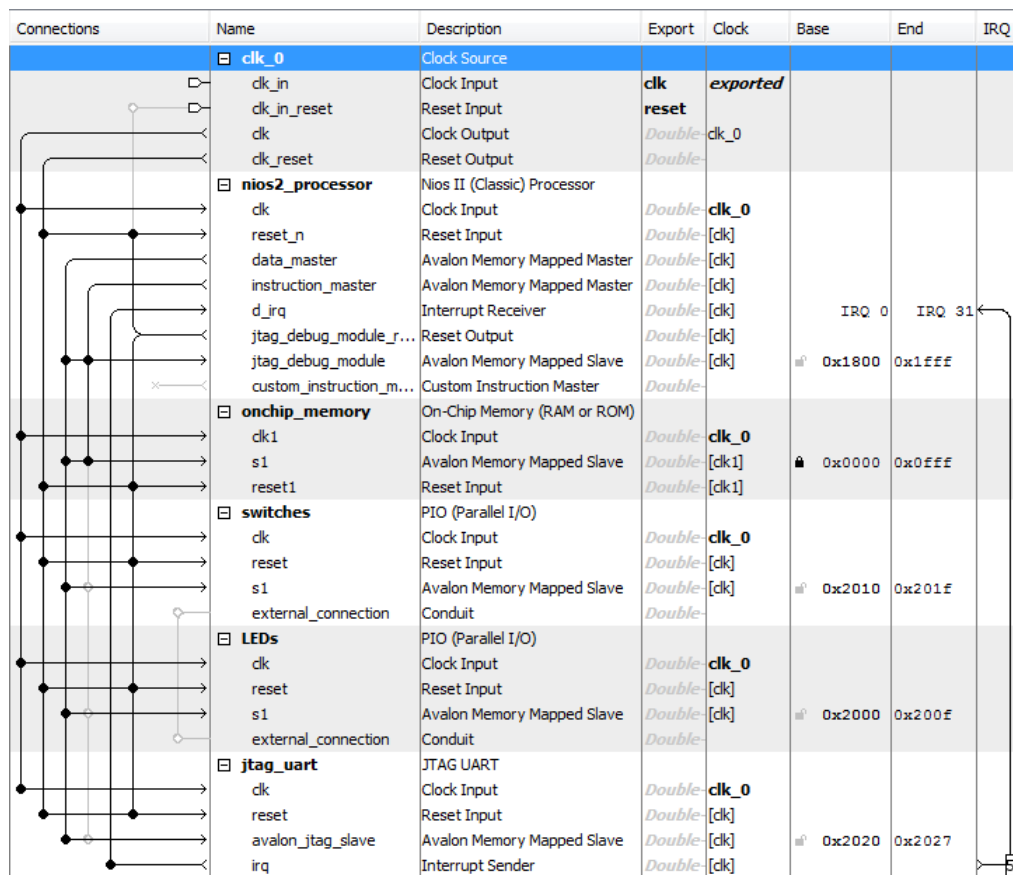
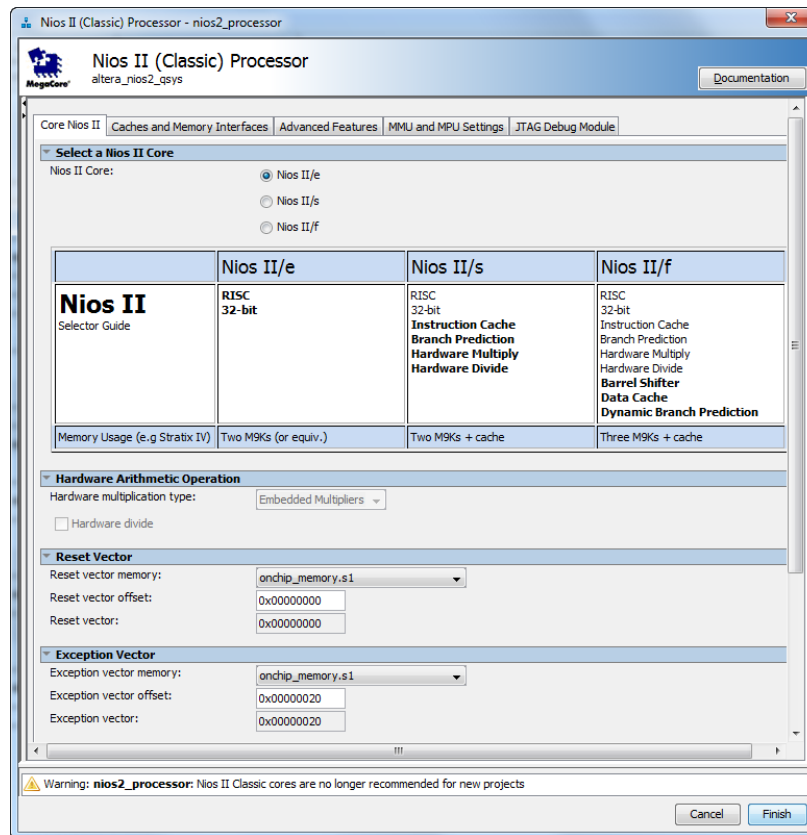

Figure 16. The system with assigned addresses.
Figure 17. Define the reset and exception vectors.
- Observe that the base and end addresses of the various components in the designed system have not been properly assigned. These addresses can be assigned by the user, but they can also be assigned automatically by the Qsys tool. We will choose the latter possibility. However, we want to make sure that the on-chip memory has the base address of zero. Double-click on the Base address for the on-chip memory in the Qsys window and enter the address 0x00000000. Then, lock this address by clicking on the adjacent lock symbol. Now, let Qsys assign the rest of the addresses by selecting **System > Assign Base Addresses** (at the top of the window), which produces an assignment similar to that shown in Figure 16.
- Right-click on the *nios2_processor* component in the window displayed in Figure 16, and then select Edit to reach the window in Figure 17
- Select *onchip_memory.s1* to be the memory device for both reset and exception vectors, as shown in Figure 17